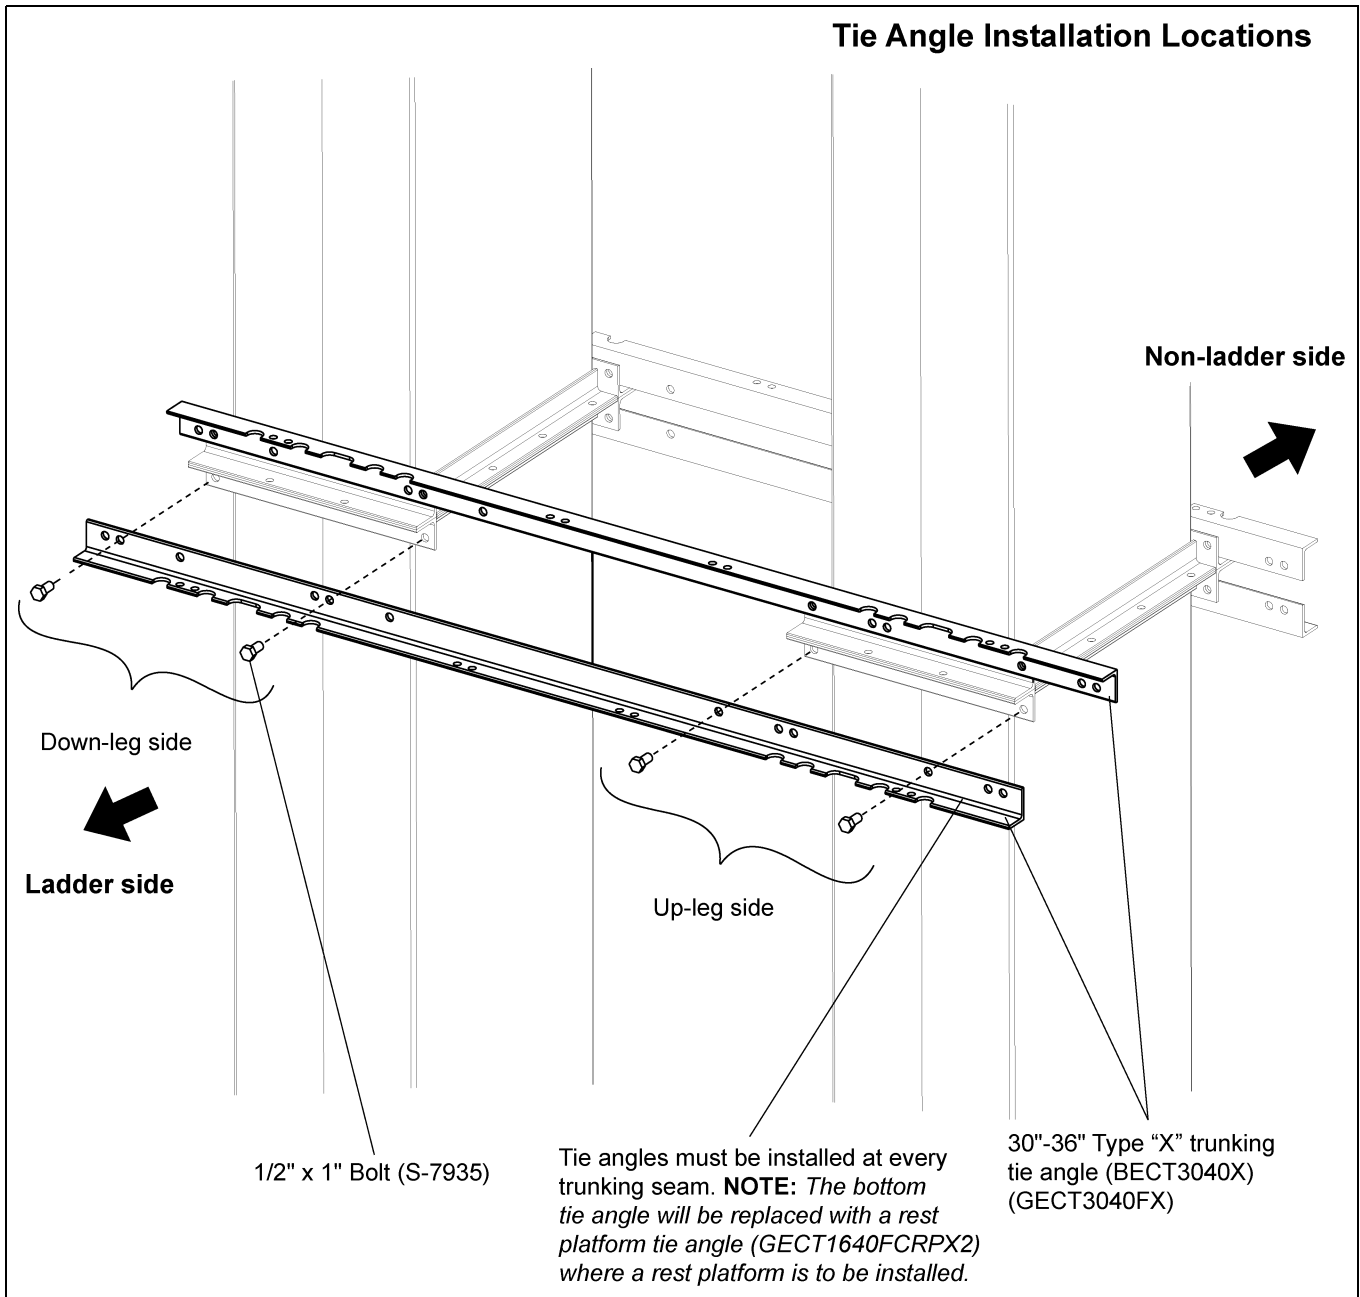

Figure 6G Tie Angle Installation Location
1. Tie angles must be mounted to each trunking seam on both the ladder and non-ladder side of the trunking. Use 1/2" x 1" bolts. *See Figures 6G-6I on Pages 25 and 26* for the correct location of bolts for each elevator size.